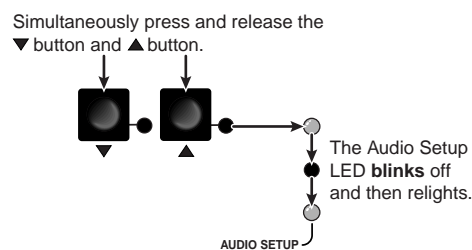

Figure 3-38 — Reset the selected input level
3. Press and release the ▼ and ▲ buttons simultaneously (figure 3-38).